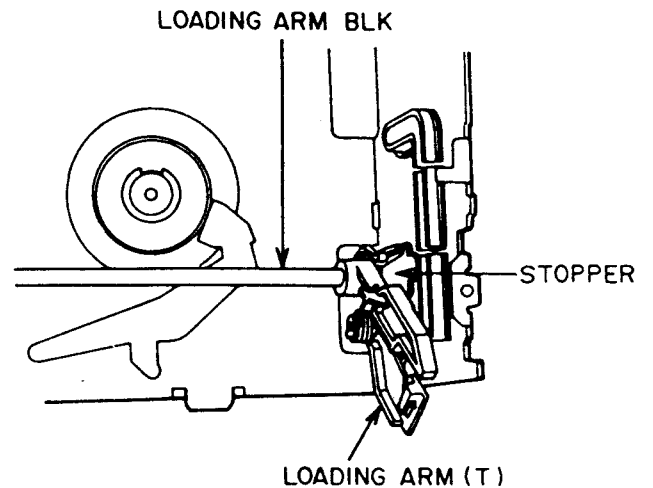

Fig. 3-2
- 1) Release the stopper on the right side end of the LOADING ARM BLK's shaft (Refer Fig. 3-2) by pressing the stopper tab with a flat head (→) screwdriver. Then remove the shaft's right end from the bracket.